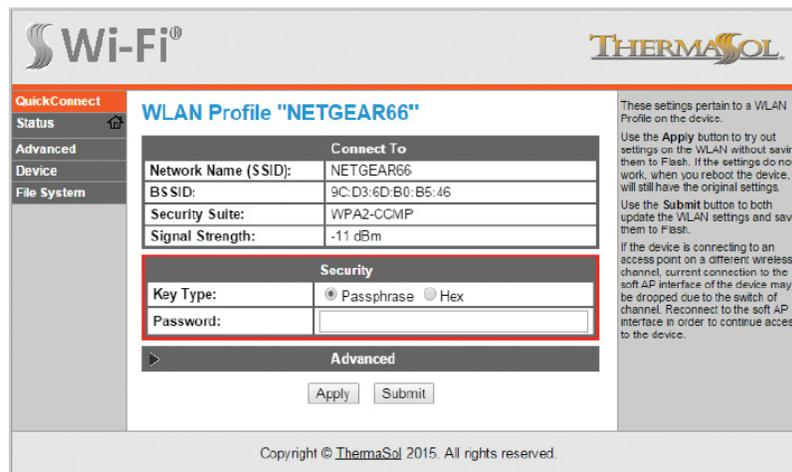

Figure 8: WLAN Wi-Fi Password
5. Enter your Wi-Fi access point password or hex key in the space provided and select submit as shown below in Figure 8